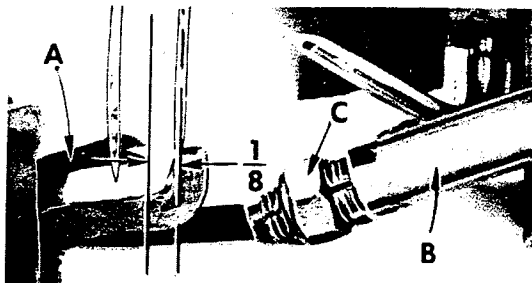

Fig. 4
Insert the lower spreader (A, Fig. 4) into bar (B). With lower spreader at left end of its stroke, set spreader point  $\frac{1}{8}$  inch from centerline of right needle (Fig. 4) using gauge No. 21225- $\frac{1}{8}$ . Do not have lower spreader deflecting needle. Do not lock nut (C) because the spreader point will have to be set to the needle scarf after the rear needle guard has been assembled and positioned. (See paragraph under "Final Setting of Lower Spreader").
is obtained by rocking the spreader forward or backward around its shank. Recheck the  $\frac{1}{8}$  inch spreader gauge setting and tighten nut (C, Fig. 4).